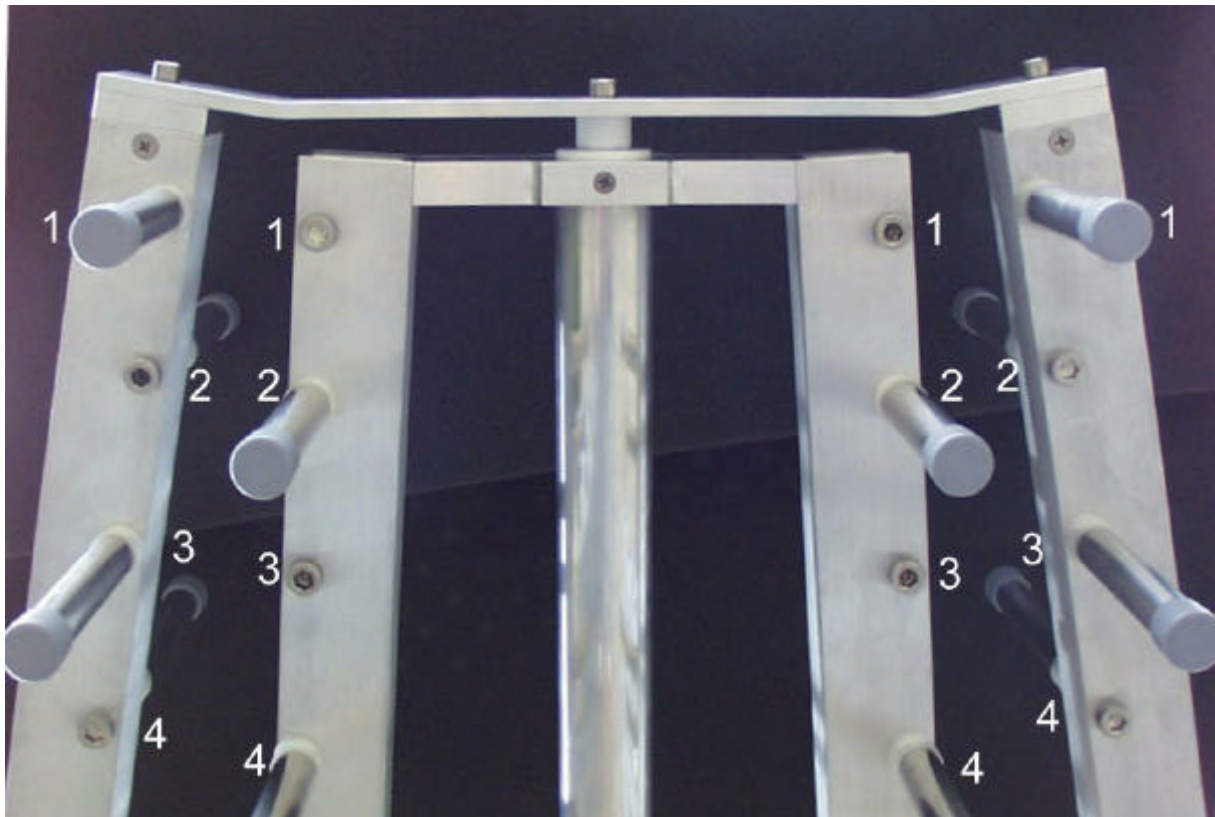
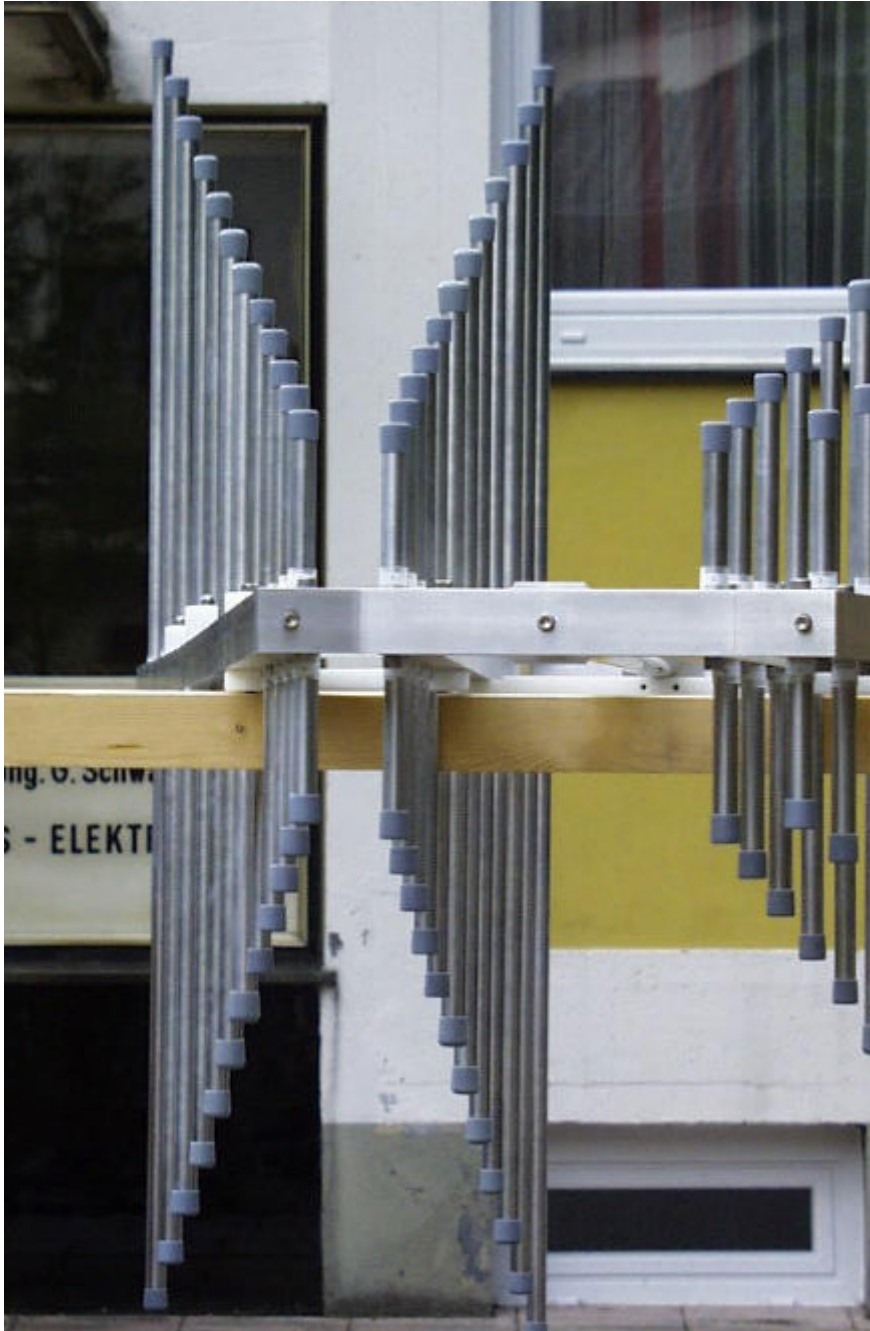

Figure 5: Antenna tip with aluminium bar and screw locations
Figure 6: View inside one LP wing with correct element assembly
Step 3: The aluminium elements are connected to the LP-wings. It is advisable to begin with the shortest 4 elements (labelled with 1) near the tip and to continue with the next larger 4 elements (labelled with 2) and so on. Figure 5 shows the correct element order and orientation. The INBUS wrench should be used for this work. Mixing up the element order causes frequency selective bandbreaks in the antenna performance. The correct element order can be checked best by examining each LP-wing from the front end and comparing it to figure 6. If everything is mounted properly, all screws should be checked with the correct torque. Another possibility to check for the correct mounting order is to measure the VSWR at the 13/30 connector. The VSWR should be less than 2.5 in the complete range.